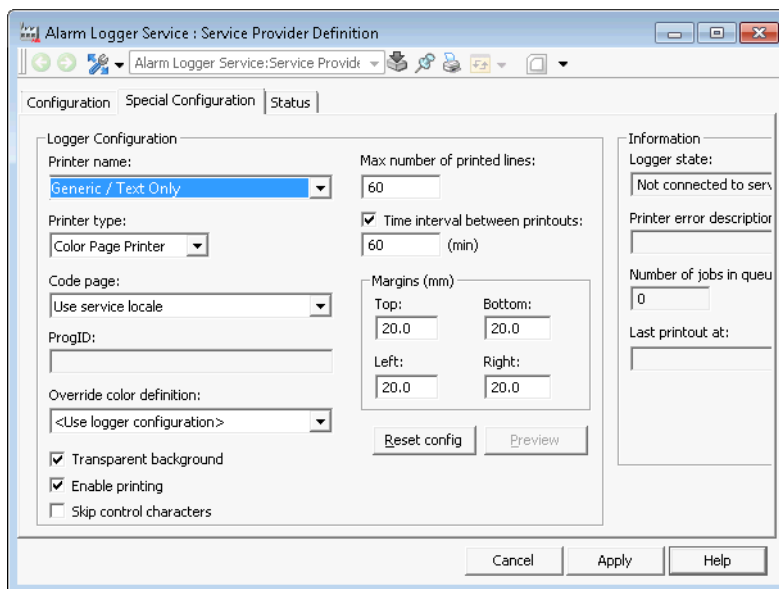

Figure 64. Service Provider Definition Aspect - Special Configuration Tab
7. Select the **Special Configuration** tab to customize the list printout. See Figure 64.
3. Configure the printer attributes below the **Special Configuration** tab. See Figure 64.